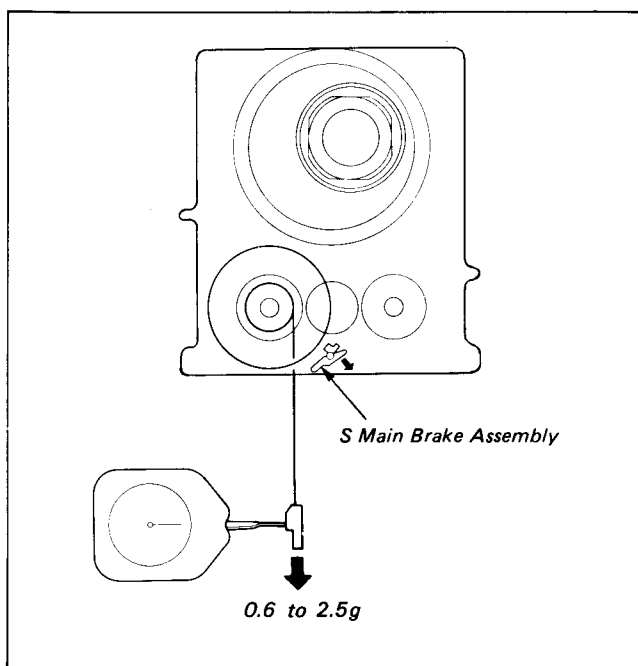

Fig. 8-64.
- 4) Pull the dial tension gauge (Ref. No. J-6) toward the arrow and check that the value satisfies the required value. (See Fig. 8-64.)